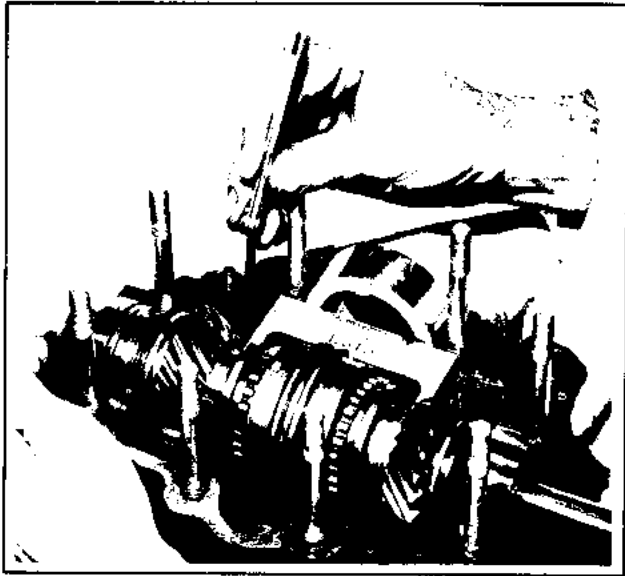

Figure 4D-51. Gaging Forward Pinion Spacing
Applying pressure to end of forward pinion assembly (1) Fig. 4D-48 and holding Pinion Gauging Tool in position, determine clearance between gauge finger and face of forward pinion. See Fig. 4D-51. NOTE: The number (1.810) stamped on 2.05 ratio gauging tool plus feeler gauge reading should equal the number etched on the large face of forward pinion. Use feeler gauge to determine exact existing clearance. If clearance is LESS than required, add necessary shims (26) Fig. 4D-48, to forward pinion assembly.